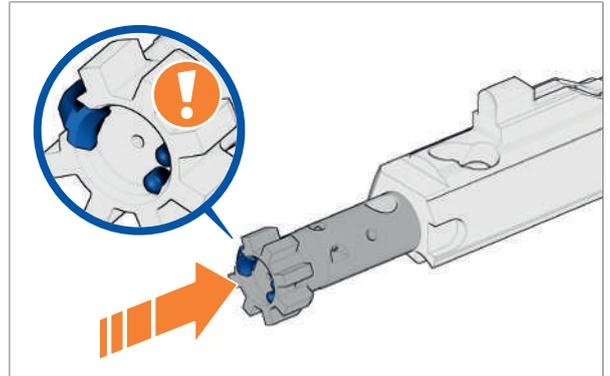

Fig. 118: Insert bolt head into bolt head carrier
1. Insert bolt head into the bolt head carrier with the extractor to the right (*Fig. 118*).